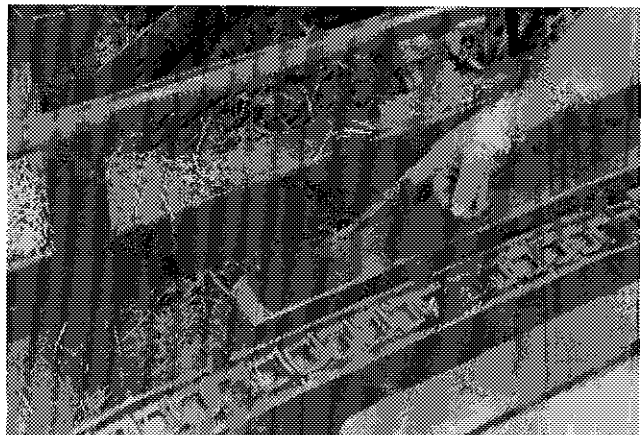

Figure 20
- 2) Make sure the elevator front bale retainer (Figure 20) is operating freely. (Spring loaded and not adjustable.)